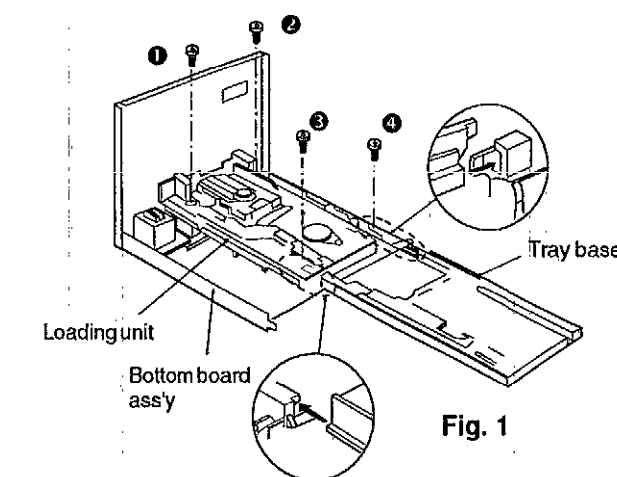

Fig. 1
1. Install the gear lever on the loading base and then slide the gear lever in the direction of arrow ①. (See Fig. 1.)
2. Install the reduction gear and secure it with a screw. (See Fig. 1.)
3. Install the gear lever spring to the boss (A). (See Fig. 1.)
1. Install the loading unit on the bottom board ass'y and secure it with 4 screws ① ~ ④. (See fig. 1.)
2. Install the tray base on the loading unit. (See fig. 1.)